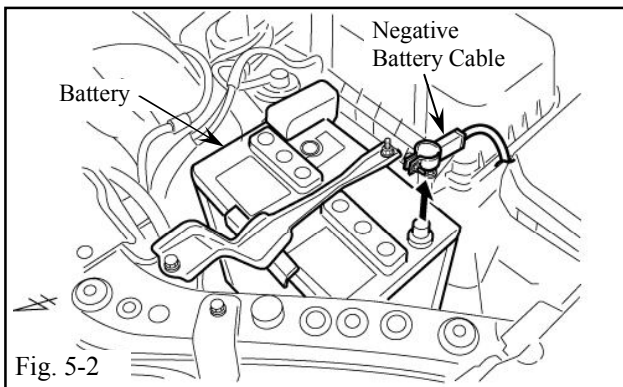

Fig. 5-2
- (b) Temporarily reconnect the Vehicle's Negative Battery Cable. (Fig. 5-2)